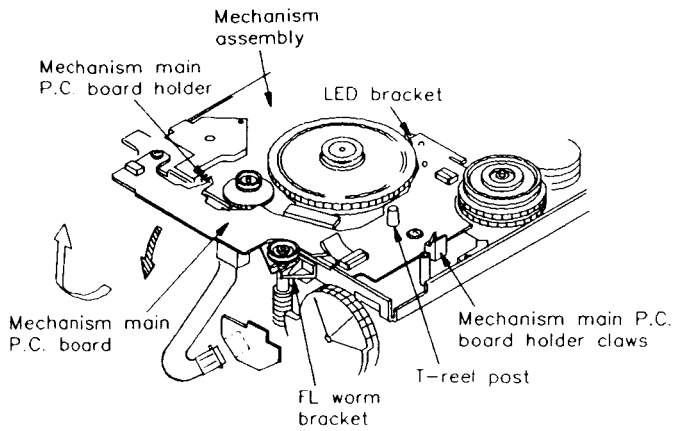

Fig. 4-15-5
6. Unhook the mechanism main P.C. board from the mechanism main P.C. board holding claws on the front mechanism assembly and lift the mechanism main P.C. board slightly. (Fig. 4-15-5 and 4-15-6)
7. Turn the mechanism main P.C. board in the direction shown by the shaded arrow as shown in Fig. 4-15-5, and remove the P.C. board from the mechanism main P.C. board holder section. In this case, the P.C. board will close to the F/L worm bracket, so slightly lift the P.C. board so that the P.C. board does not touch the worm bracket. Also take care not to damage the main P.C. board holder. Finally, remove the mechanism main P.C. board, paying attention not to touch the reel post.